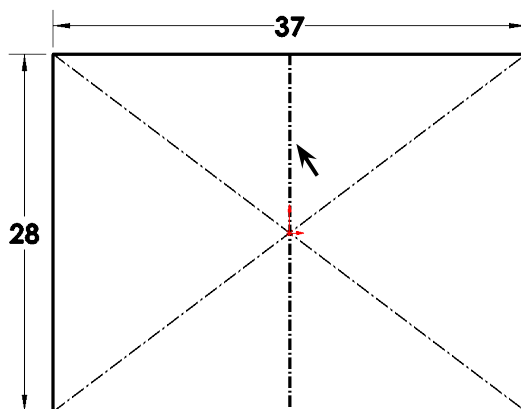

Fig. 4
Step 8. Sketch vertical centerline through Origin , **Fig. 4**.
Step 9. Click **3 Point Arc**  (S) in the **Arc flyout**  on the Sketch toolbar.